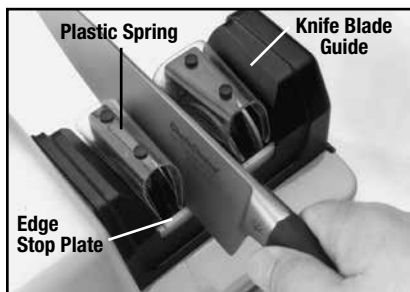

Figure 6. Sharpening in Stage 1: Knife is inserted between the knife Blade Guide and the plastic spring until edge rests lightly on Edge Stop Plate.
3. Move the blade downward in the slot while slowly pulling it toward you until it contacts the rotating diamond disk. Make sure as you pull the knife down and forward through the slot that it is fully inserted and its edge rests **lightly** on the front Edge Stop Plate (as seen in Figure 6). Apply only just enough downward pressure to make contact with the front Stop Plate. Additional pressure is unnecessary and counterproductive. Do not be concerned about resting the knife edge on the Edge Stop Plate; it was designed so that it will not damage the knife's edge.